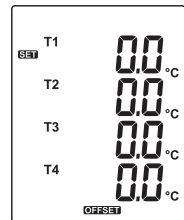

Fig.10
- (4) Press the  or  button to select thermocouple channel. (see Fig. 10)